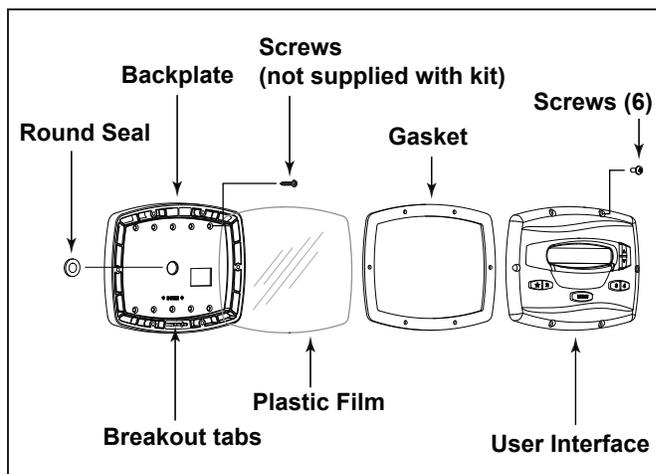

Figure 2. User Interface Components
The ePump™ user interface assembly (See Figure 2) contains the following components:
3. Drill out the plastic film covering the backplate screw holes. See Figure 2.
- A minimum of two (2) fasteners (installer supplied) are required when installing to a flat wall to hold the user interface securely.
- The backplate has ten (10) mounting holes to choose from. Only drill out the plastic film from the holes to be used. See Figure 2.
- At the bottom of the backplate, cut the two (2) tabs out with an appropriate tool, such as a carton cutter or an exacto knife, and route the cable through the open channel.
- Attach the four (4) wires in the RS-485 cable to the RS-485 connector. Make sure the colors match the positions on the connector. See Figure 2.